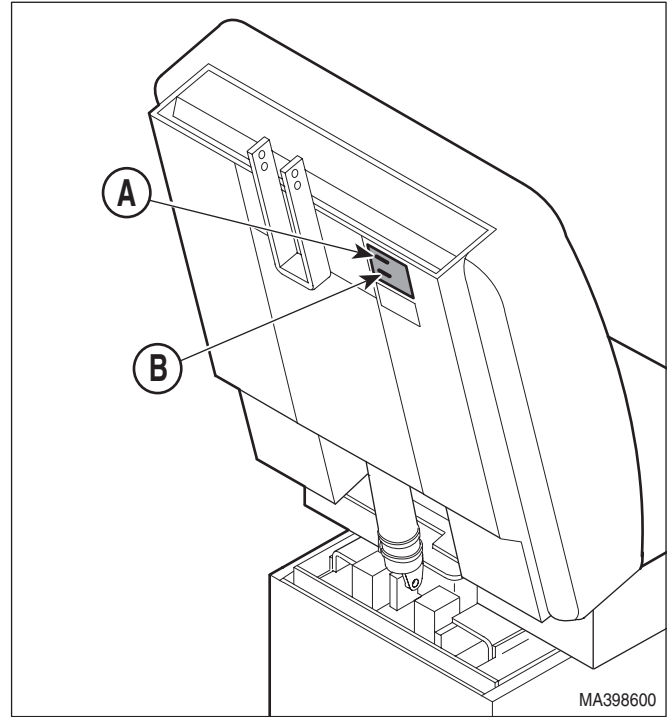

Figure 1-3. Model Number / Serial Number Location
- (1) Refer to Figure 1-3 to determine the location of the model number (A) and serial number (B) of the table and record this data.